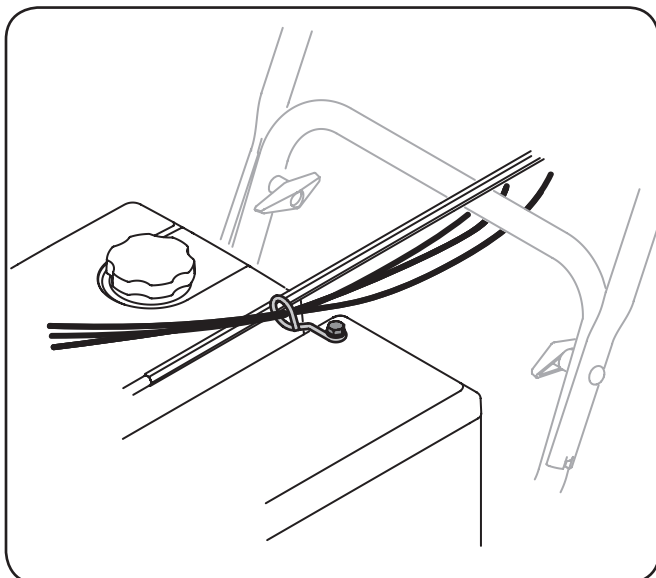

Figure 3-13
9. Check that the cables are properly routed through the cable guide on top of the engine. Some models only have one cable to route through the cable guide. See Figure 3-13.